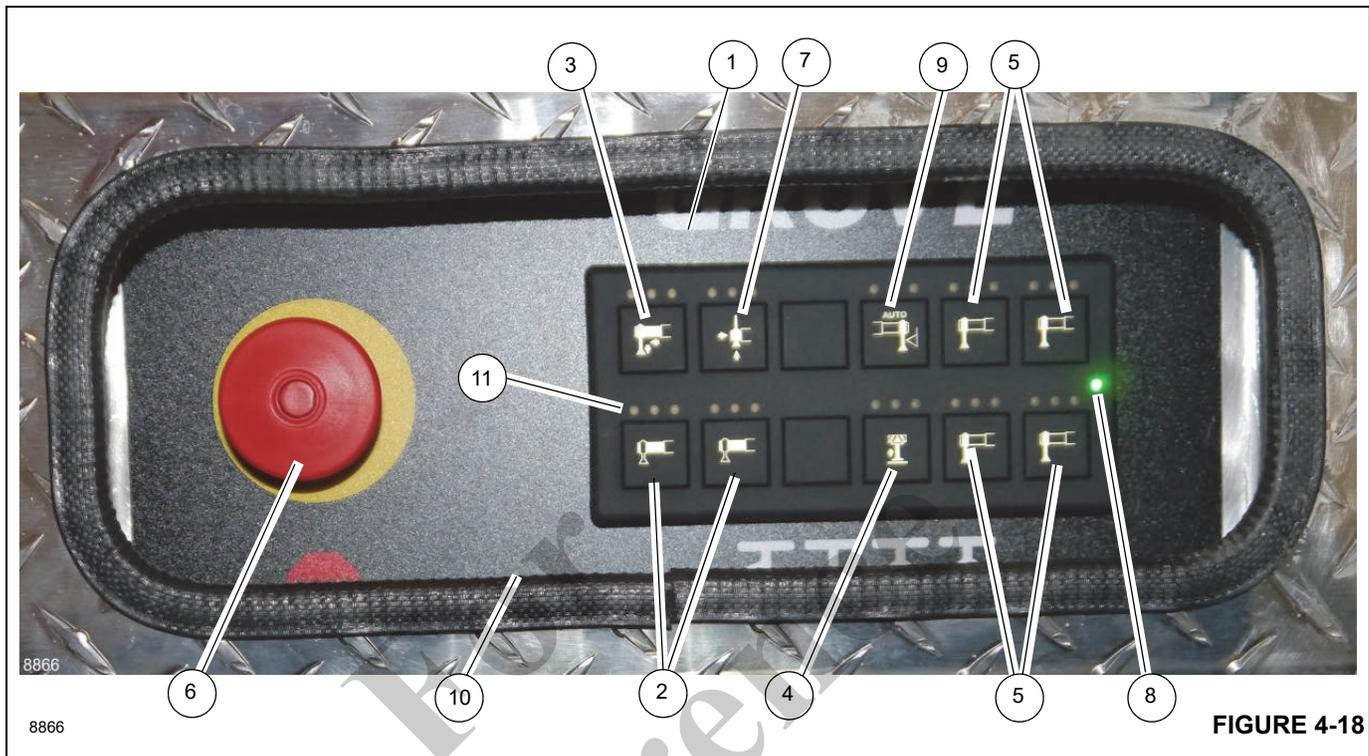

FIGURE 4-18
**NOTE:** A push-button emergency stop switch (6), (Figure 4-18) is installed on the outrigger control panel.
3. If required, extend the outrigger beams to the mid-extend or fully extended position by pressing the Outrigger Beam Selector Switch (2), (Figure 4-18) and the Extend Switch (3), (Figure 4-18). You can only activate the outrigger beams on the actual outrigger control panel side you are using (versus both sides at once).
4. Extend the outrigger jacks using the Outrigger Jack Selector Switches (5), (Figure 4-18). Extend each outrigger jack until the jack cylinder barrel engages the pad and insert retaining pin.
8. To activate auto level, press and hold the Auto Level Switch (9), (Figure 4-18) and the Extend Switch (3), (Figure 4-18). The system will make a series of retracting movements of the outrigger jacks, pausing between each movement to assess the levelness of the crane. When the movements have been completed, verify visually that all tires are off of the ground. If any of the tires have made contact with the ground consider adding cribbing under the outriggers.
9. Once the crane has been leveled and tire lift-off verified, use the Center Front Jack Switch (4), (Figure 4-18) and the Extend Switch to extend the center front jack. Verify visually that the center front jack has made contact with the ground or outrigger mat.
2. Retract the center front jack using the Jack Selector Switch (5), (Figure 4-18) and the Retract Switch (7), (Figure 4-18).
4. Retract the front outrigger jacks using the Jack Selector Switch (5), (Figure 4-18) and the Retract Switch (7). Retract the front outrigger jacks until they have adequate clearance to remove the outrigger pads.
8. If required, fully retract the outrigger beams using the Outrigger Beam Selector Switch (2), (Figure 4-18) and the Retract Switch (7), (Figure 4-18).